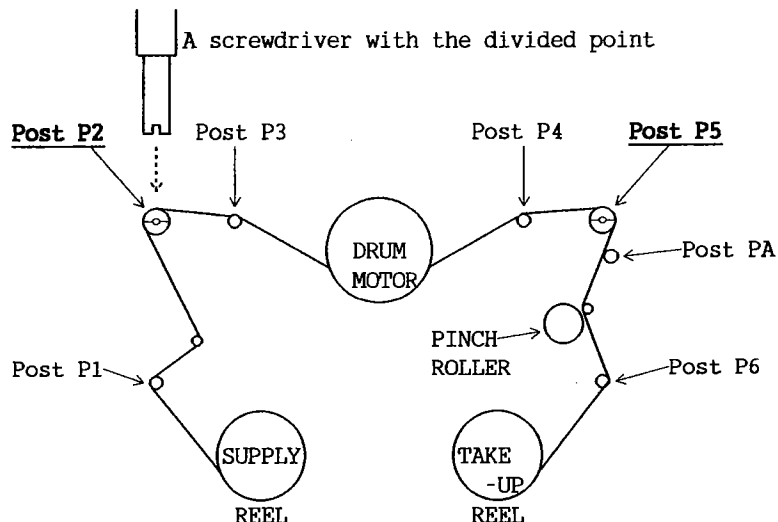
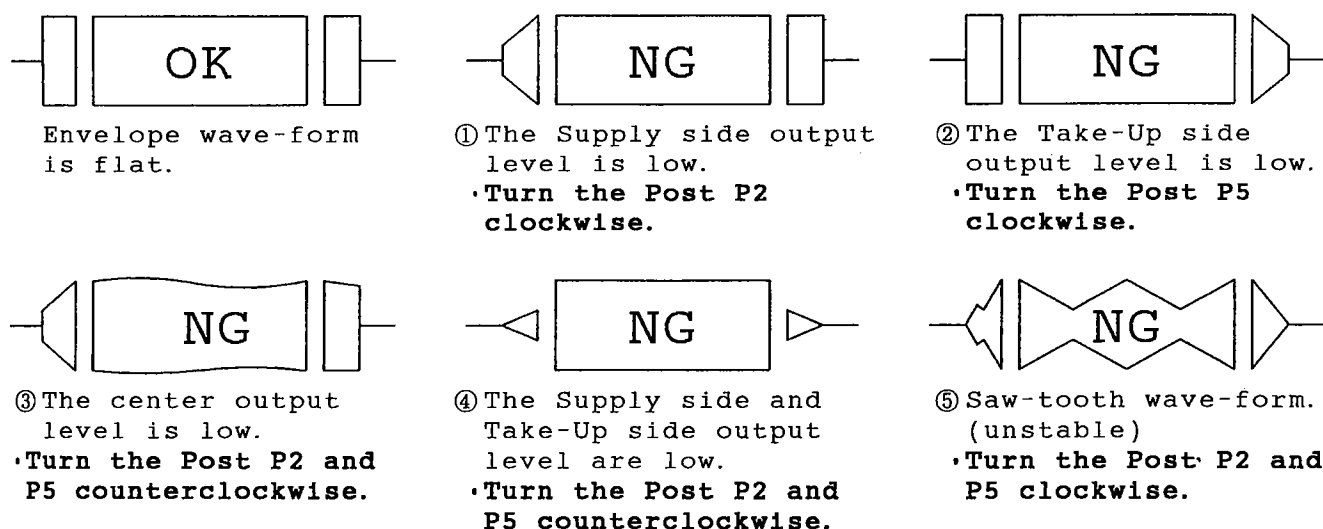

Fig. 12
Fig. 13 Envelope wave-forms
8. Adjust the hight of the Supply Side Guide Roller (Post P2) and the Take-Up Side Guide Roller (Post P5) to make the envelope wave-form flat. (See Fig. 12 and Fig. 13)